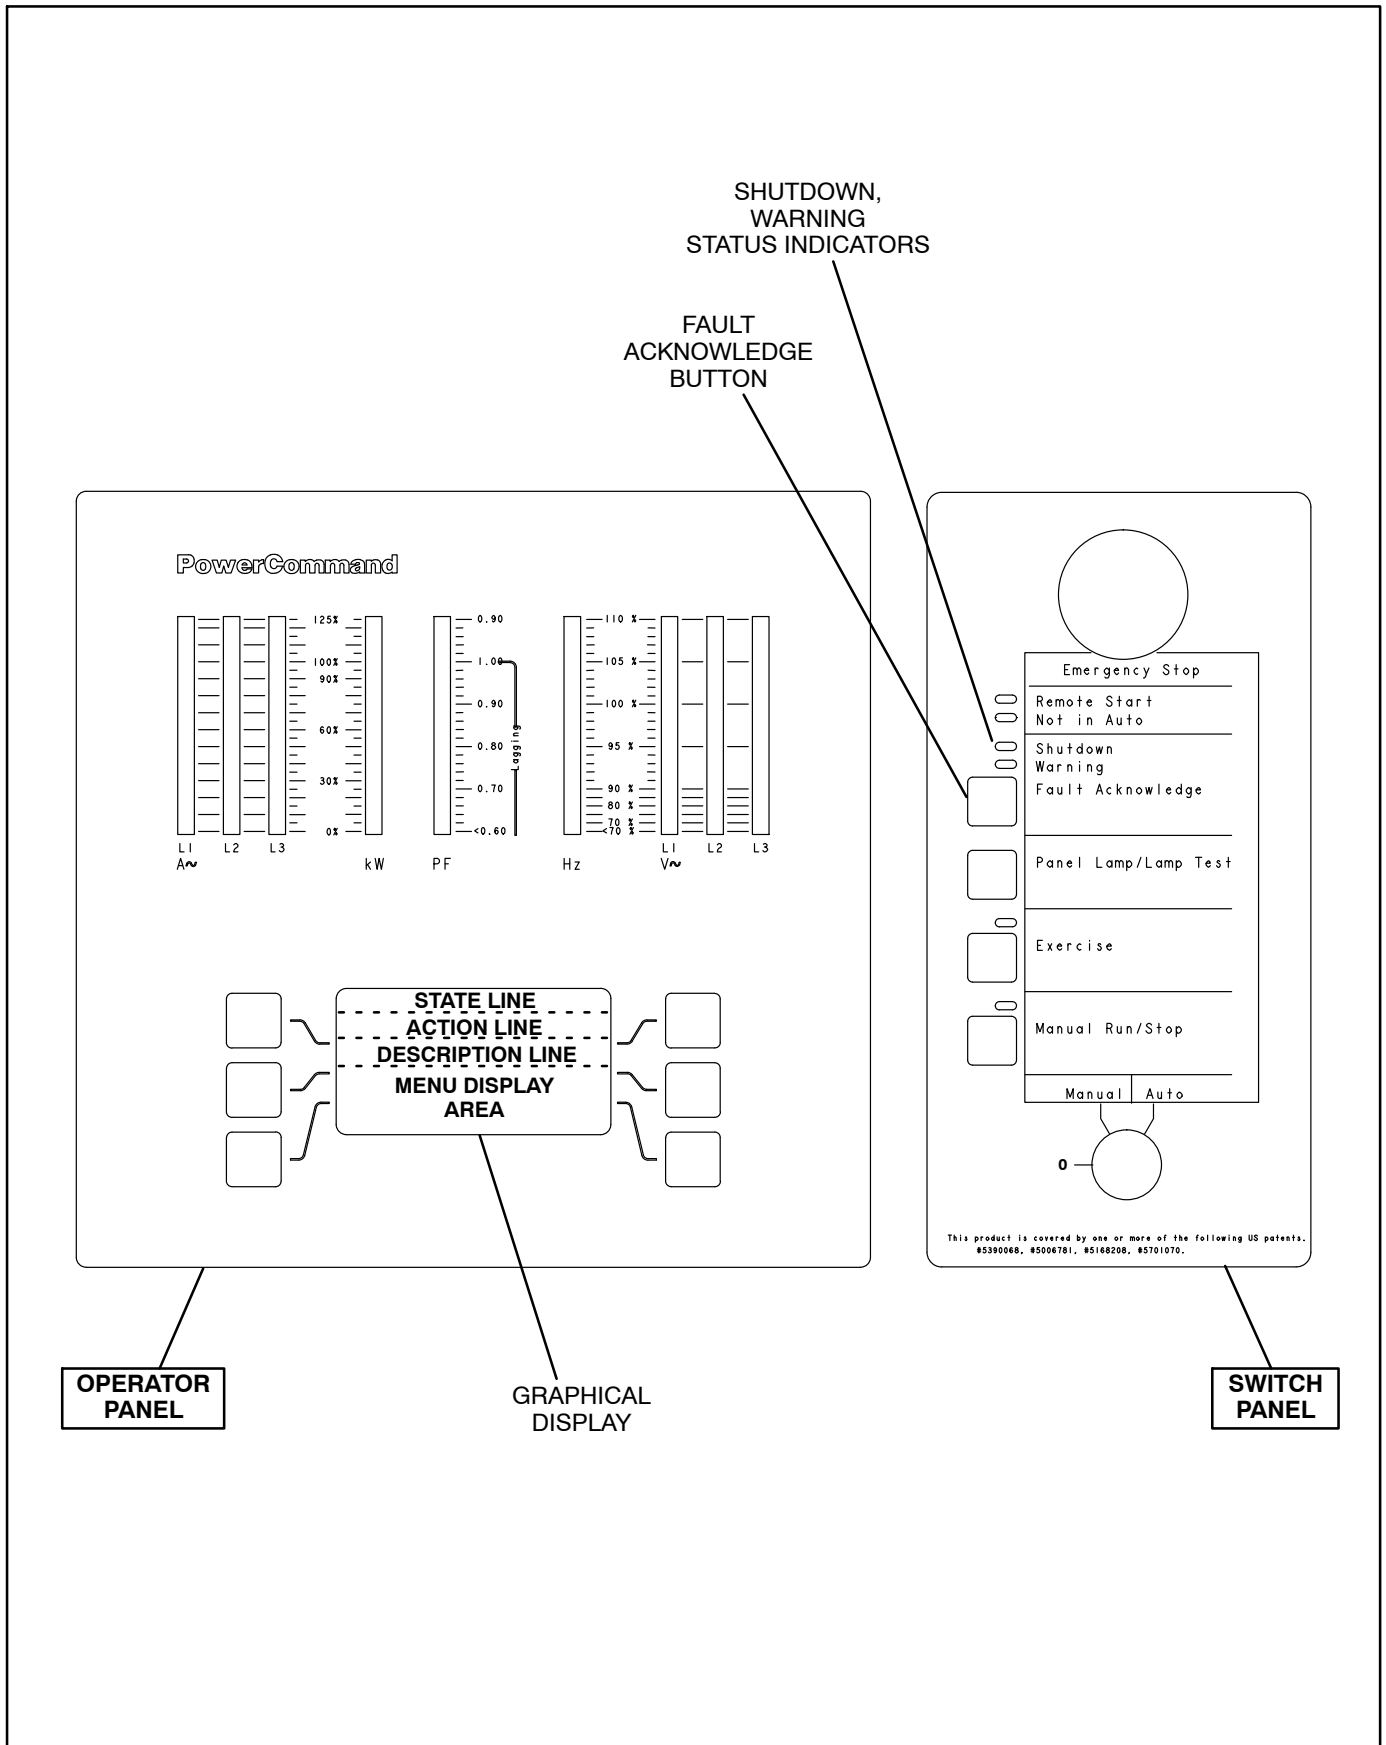

FIGURE 4-1. FRONT CONTROL PANEL (FULL-FEATURED)
**Not In Auto Indicator:** This red lamp flashes continuously when the O/Manual/Auto switch is not in the Auto position (Figure 4-1).
If the genset contains the optional graphical display and a fault occurs, the fault code/message will be displayed in the display Description Line (Figure 4-1). If the control does not contain the graphical display, the fault code is read from the Warning and Shutdown status indicators.